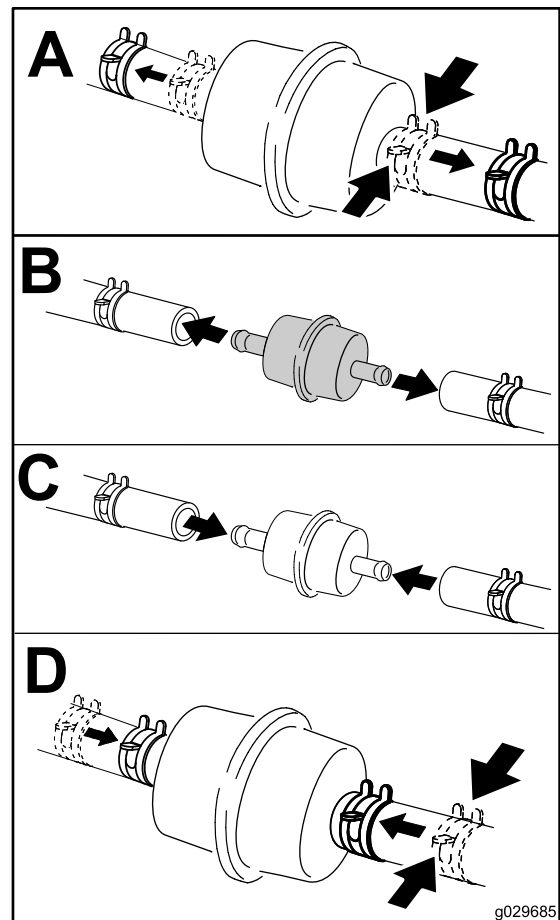

Figure 53
4. Replace the fuel filter (Figure 53).